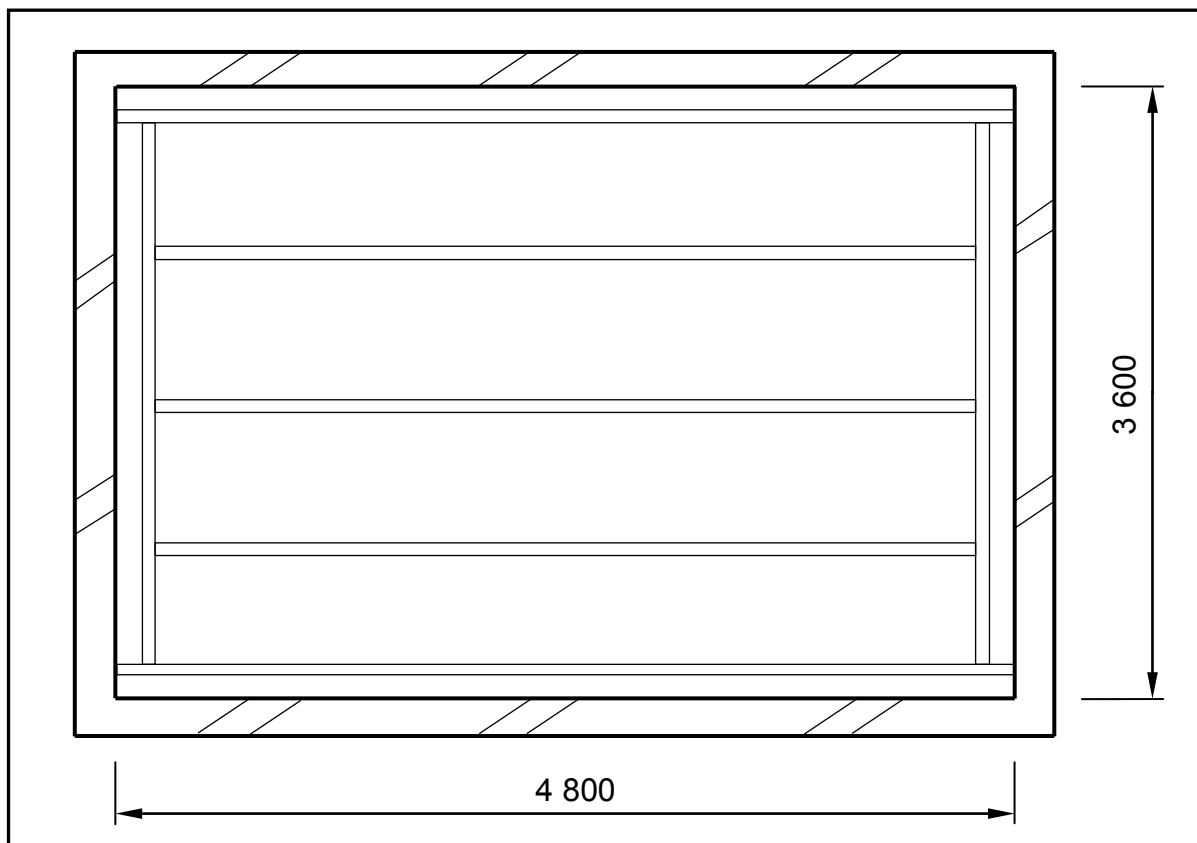

FIGURE 4.5
- 4.5 FIGURE 4.5 on the next page shows the brancing layout of a ceiling construction and the four walls. Study the drawing and complete the incomplete cutting list. Write down the answer next to the question number (4.5.1–4.5.7) in the ANSWER BOOK.